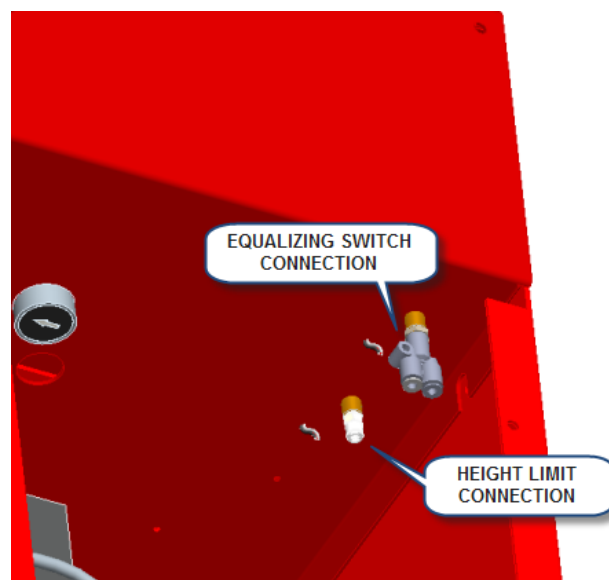

Figure 10 – Pneumatic Switch Return Line Connections (Console)
3. The two (2) equalizing pneumatic switch return lines, labeled “EQ. RETURN”, are connected to a union ‘Y’ fitting in the console (Figure 10).
4. The upper limit pneumatic switch return line, labeled “LMT RETURN”, is connected to the pressure switch fitting in the console (Figure 10).